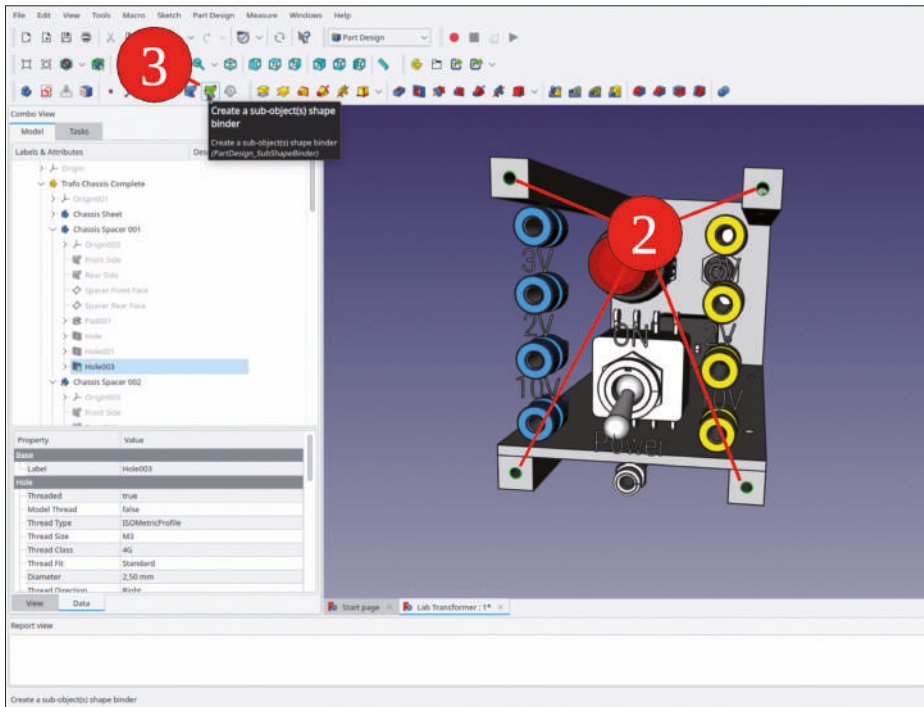

Figure 9-84
16. Hide the body 'Front Panel Sheet', which you just activated, to expose the holes in the spacers below (Figure 9-84, SPACE key). Mark the edges of the 4 holes.